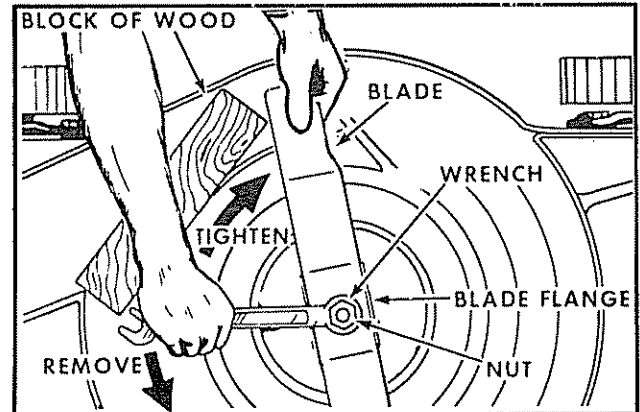

FIG. 18
1. To remove the blade and blade flange, turn mower on its side with carburetor and air filter up (See Fig. 18).
2. Take blade nut off by turning counter-clockwise. Use a  $15/16$ " box or open end wrench on the blade nut (See Fig. 18).